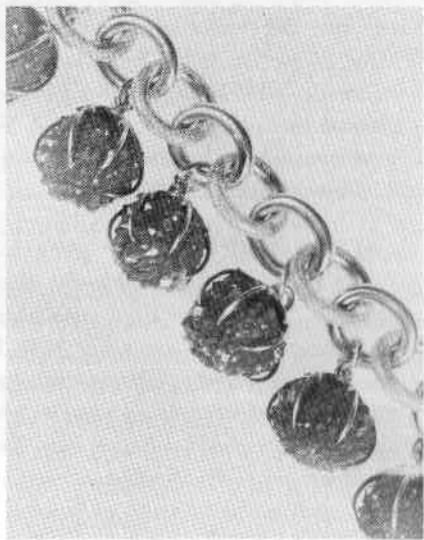

Figure 10
*Figure 10* illustrates a section of a bracelet containing 12 rounded, red-brown crystal groups of ferruginous quartz — a most unusual use of beautiful mineral specimens. The coloring agent of the quartz is probably hematite.